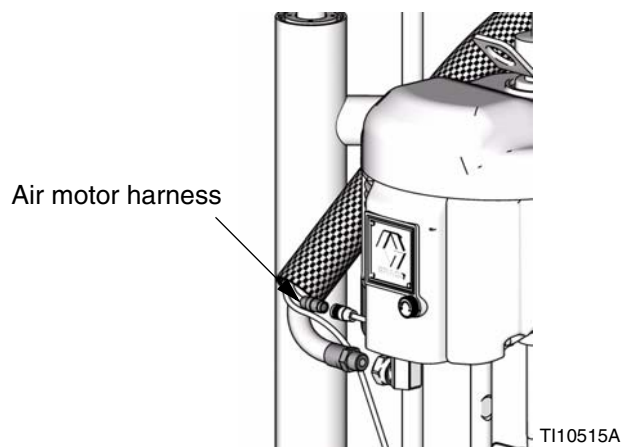
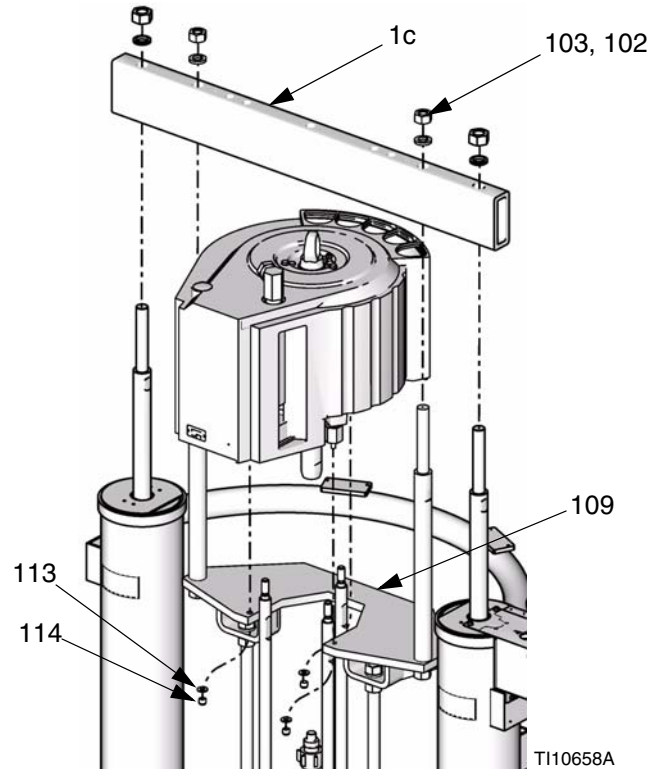
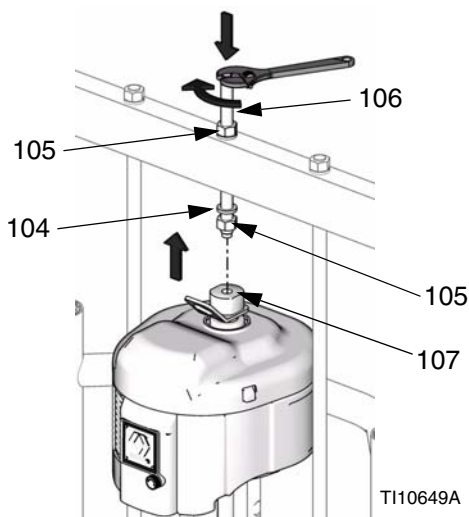

FIG. 23
FIG. 28
FIG. 29
- b. Install threaded rod (106) through center hole in the crossbar. Install lock washers (104) and nuts (105) onto threaded rod (106), both above and below crossbar. Use wrench to hold lift ring adapter (107) and tighten threaded rod (106) into lift ring adapter (107) using another wrench. See FIG. 29.
- c. Tighten nut (105) below crossbar to 25 ft-lb (34 N•m) maximum.
- d. Tighten nut (105) above crossbar to lock motor in place.
- e. Connect air hose to motor. If using a remote DataTrak, connect electrical connections to the air motor. See FIG. 23 on page 22.
- b. Connect air hose to motor. If using a remote DataTrak, connect electrical connections to the air motor. See FIG. 23 on page 22.
1. Using a capable hoist, lower air motor on the mounting plate (109). See FIG. 28.
2. Secure motor to mounting plate (109) with nuts (114) and washers (113).
3. Install cross bar (1c), nuts (103), and washers (102).
5. Connect air hose to motor. If using a remote Data-Trak, connect electrical connections to the air motor. See FIG. 23 on page 22.